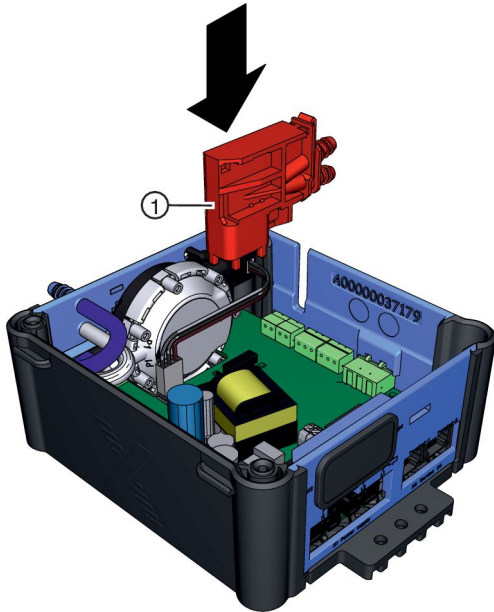

Fig. 17: Plugging expansion module EM-DDT into the PCB.
3. ▶ Plug expansion module EM-DDT into the PCP (Fig. 17/①).